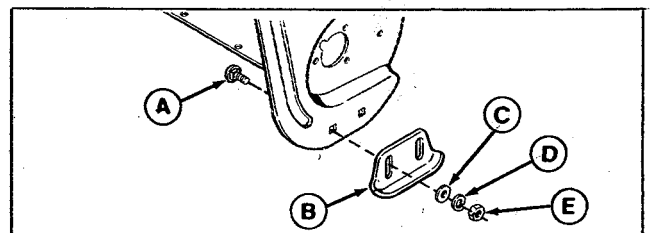

Figure 3A.
6. To install skid shoes, place two 3/8-16 x 3/4 carriage bolts (A, figure 3A) through housing as shown. Install skid shoes (B) and secure with flat washers (C), lockwashers (D) and locknuts (E).